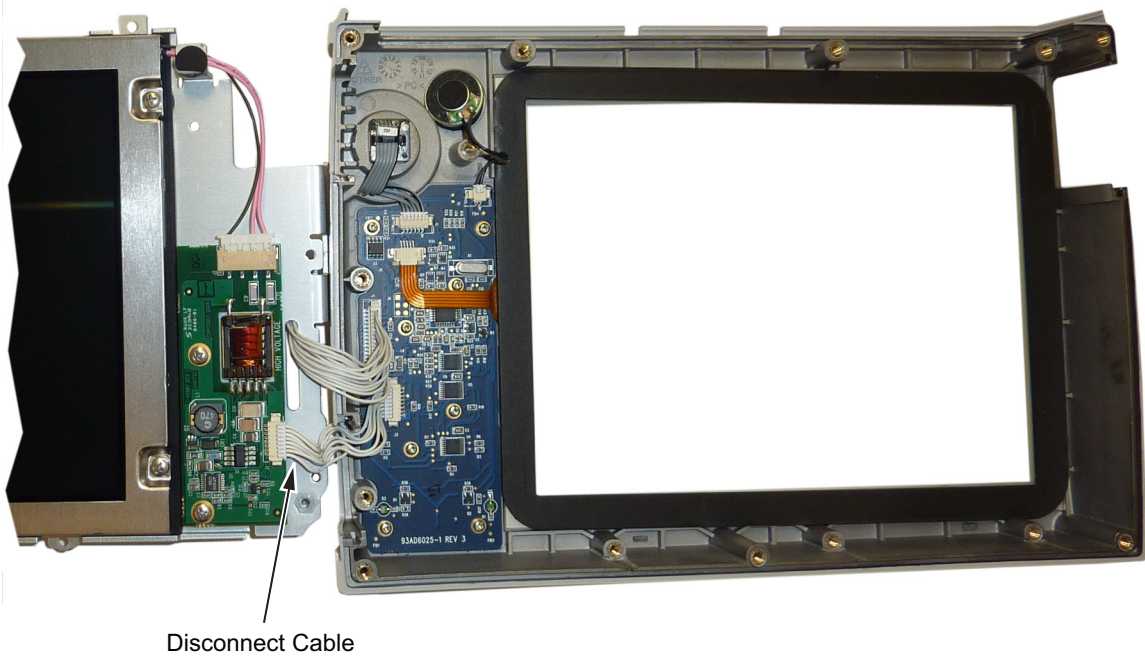

Figure 6-12. Replacing the LCD Assembly
- Turn the LCD assembly over and disconnect the front half of the case from the LCD assembly (Figure 6-12).